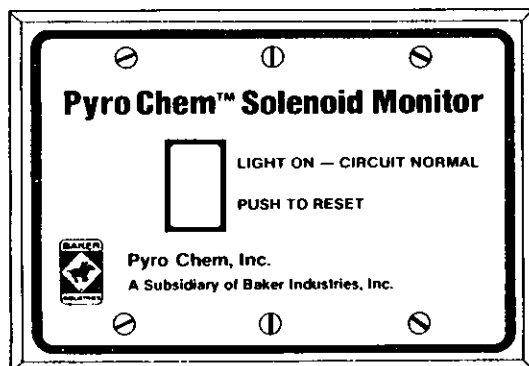

Figure 1-18. Solenoid Monitor
9. Electrical Controls — Solenoid Monitor — Pyro Chem offers two solenoid monitors for use with the "wet" chemical system. The Model SM-24 is used with the 24 VDC solenoid. The Model SM-120 is used with the 120 VAC solenoid. The solenoid monitor is an "end of line" type device that monitors the solenoid circuit. In the event of a problem in the circuit, a light on the monitor goes out. Two sets of NO/NC dry contacts are provided for signaling if required. The unit mounts directly to a three gang wall outlet box. In addition to monitoring the solenoid, this unit will monitor any normally open contact devices in the solenoid circuit. (See Figure 1-18).